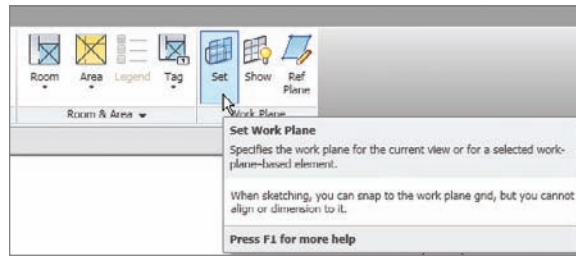

FIGURE 12.82 The Set Work Plane button on the Work Plane panel of the Home tab
2. On the Home tab, find the Work Plane panel to the right of the Ribbon and click the Set button, as shown in Figure 12.82.